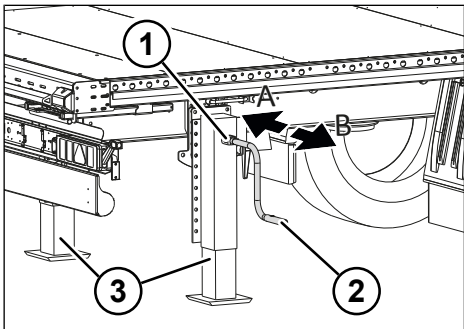

Fig. 5-6: Load speed and high speed of the rear brace
- ▶ Switch on high speed by pulling out the hand crank (see "Fig. 5-6: Load speed and high speed of the rear brace", pg. 30).
- ▶ Switch on load speed by pushing in the hand crank (see "Fig. 5-6: Load speed and high speed of the rear brace", pg. 30).
- ▶ Set to load speed by pushing in the hand crank (see "Fig. 5-6: Load speed and high speed of the rear brace", pg. 30).
- ▶ Set to high speed by pulling out the hand crank (see "Fig. 5-6: Load speed and high speed of the rear brace", pg. 30).